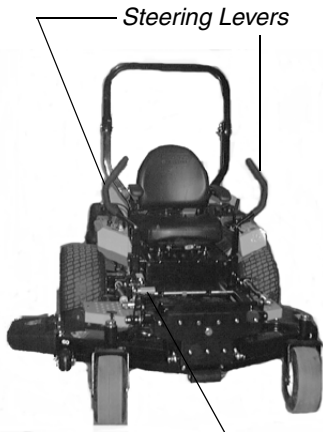

Figure 3 *Foot Pedal Lift*
4. **Left and Right Steering Levers:** (See Figure 3.) These hinged levers open out to the side in any position to permit the operator to be seated or to leave the mower's seat. The operator, when seated, can pull the levers up to the operating position, a comfortable forearm's length away. These levers control all of the movements of the mower. Pushing both levers forward causes the mower to move forward. Pulling both levers back causes the mower to move backward. Pushing one lever ahead of the other lever causes the traction wheel on the side where the lever is ahead to rotate faster than the other traction wheel, making the mower turn toward the side where the lever is behind. When one lever is pushed forward and the other lever pulled back the same amount, one traction wheel will turn in reverse and the mower will turn within its own length.
7. **Foot Pedal Lift:** (See Figure 3.) Located on the right front corner of the mowing deck. A two pedal mechanism is provided whereby one pedal (first) is used to raise, to momentarily hold the implement at a desired height (if needed), and to latch it in the transport or maximum height setting. A second pedal is used to unlatch the mechanism from the transport or maximum height setting, to lower, or to momentarily hold the implement at a desired height. The pedals can also be used in conjunction with each other when the upper portion of a foot activates the first pedal to raise the implement, and the lower portion of the foot (heel) activates the second pedal to release the latch. This provides a hands-free operation with the exception of when an implement height change is required. For changing implement height, at least one hand is required to reposition the pins to provide 1/4" height-of-cut increments.